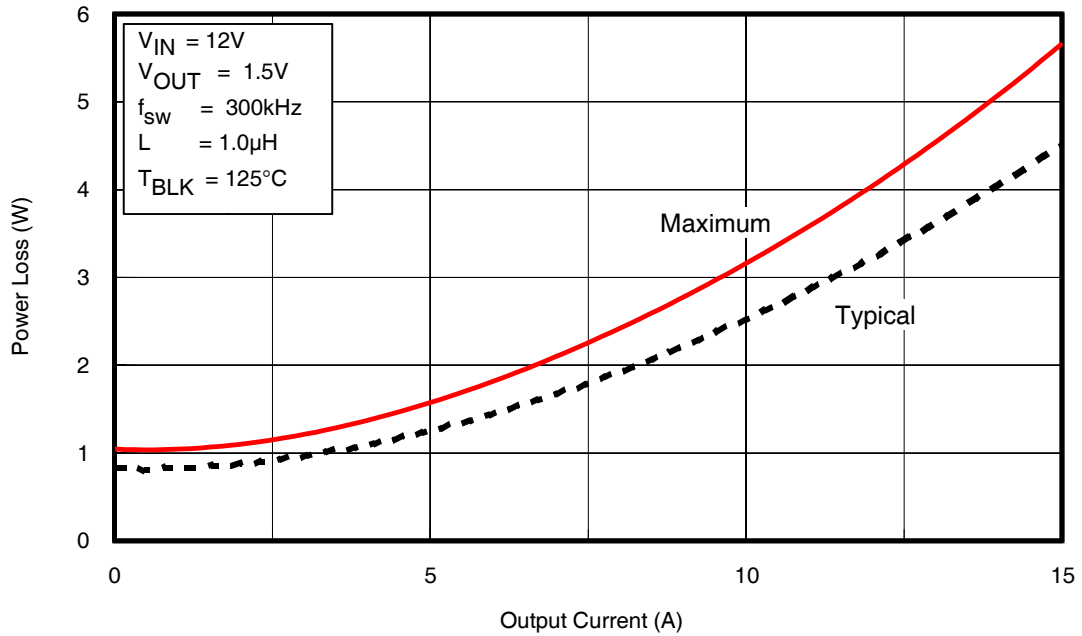

Fig. 2: Power Loss vs. Current
To make adjustments to the power loss curves in Fig. 2, multiply the normalized value obtained from the curves in Figs. 4, 5, 6 or 7 by the value indicated on the power loss curve in Fig. 2. Then if multiple adjustments are required, multiply all of the normalized values together, then multiply that product by the value indicated on the power loss curve in Fig. 2. The resulting product is the final power loss based on all factors. See example no. 1.
- (Fig. 2) Maximum power loss = 4.1W